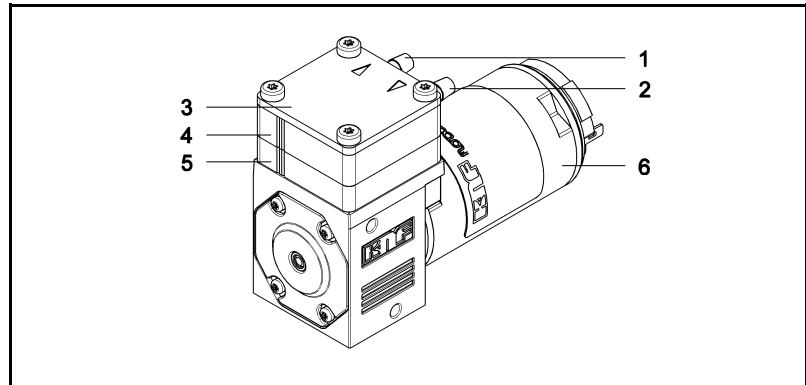

Fig. 1: Micro-diaphragm liquid pump
* The pump head (Fig. 1) comprises a connecting plate and an intermediate plate